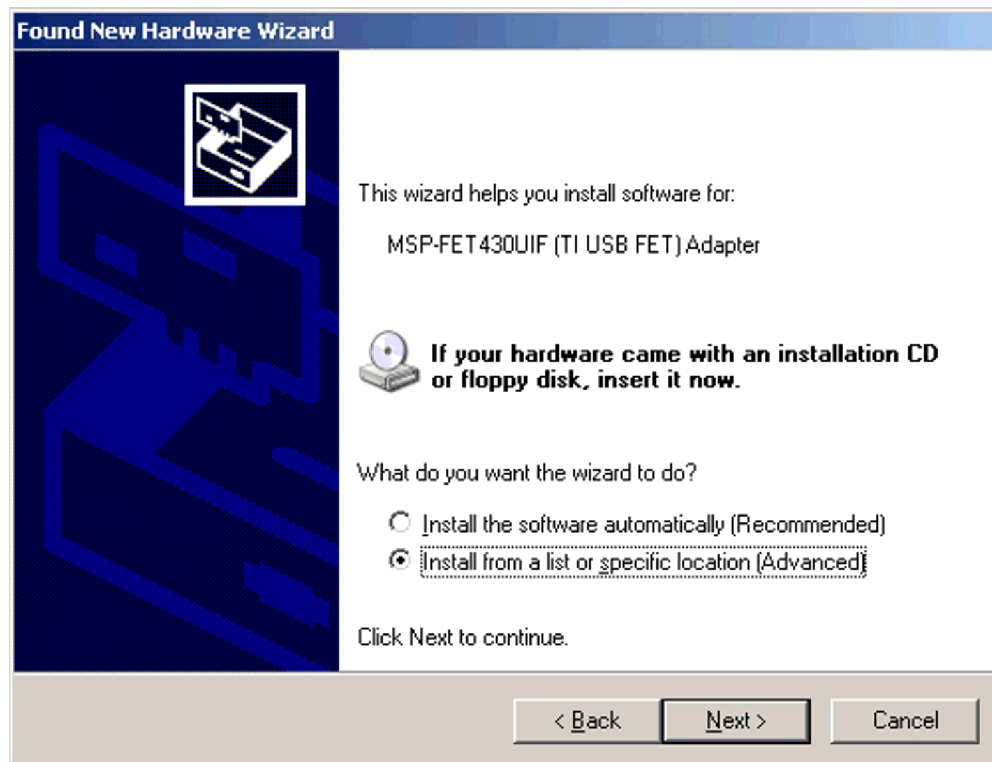

Figure E-2. WinXP Hardware Wizard
5. Select "Install from a list or specific location (Advanced)" (see Figure E-2).